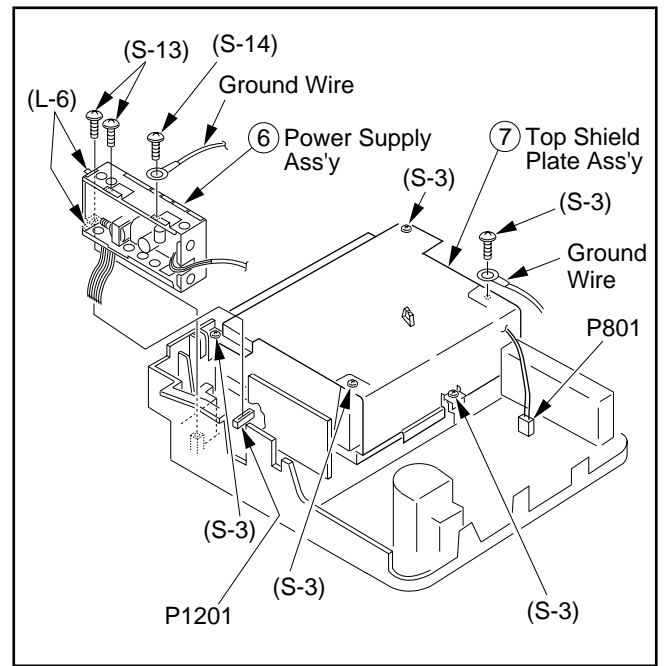

Fig. D6
3. When removing the Shield Case of the Power Supply Ass'y, twist and straighten 2 Locking Tabs (L-6) on the Power Supply Ass'y in Fig. D6. Then remove the Shield Case by pulling it away from the Power Supply Ass'y.